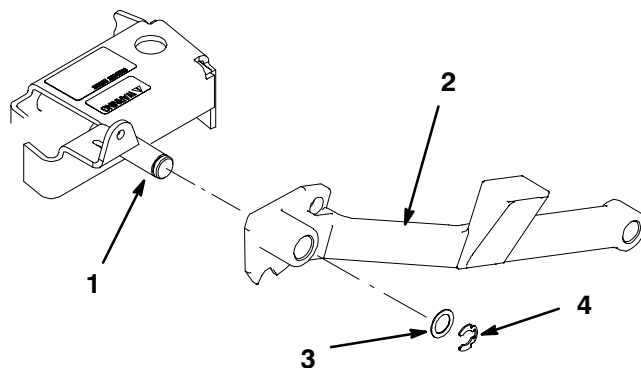

Figure 75
3. Remove the retaining ring and flat washer securing the push arm to the mower (Fig. 75).
6. Place push arm onto carrier frame pin and secure with 1-1/2" (38 mm) flat washer and retaining ring (Fig 75).